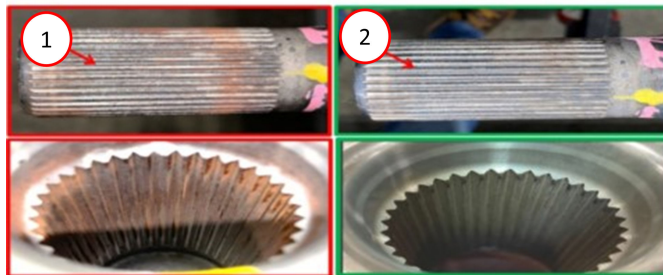

Fig. 1
5. Using brake cleaner and a wire brush, clean both the interface of the shaft splines and hub splines to remove any of the "fretting/corrosion" seen on those splines Fig. 1.